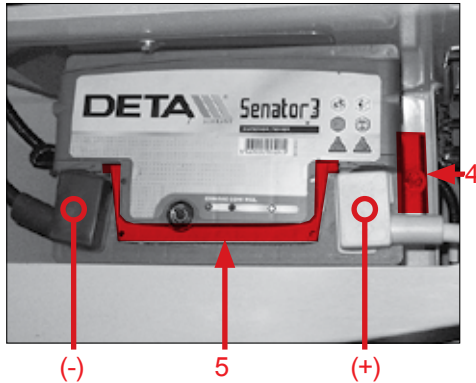

Fig. 137
6. Unscrew the cable from the negative terminal (marked with the “-” symbol in Fig. 137).
7. Unscrew the cable from the positive terminal (marked with the “+” symbol in Fig. 137).
8. Unscrew the battery holder. (item 4) (Fig. 137)..
9. Lift the battery by the handle (item 5) (Fig. 137).